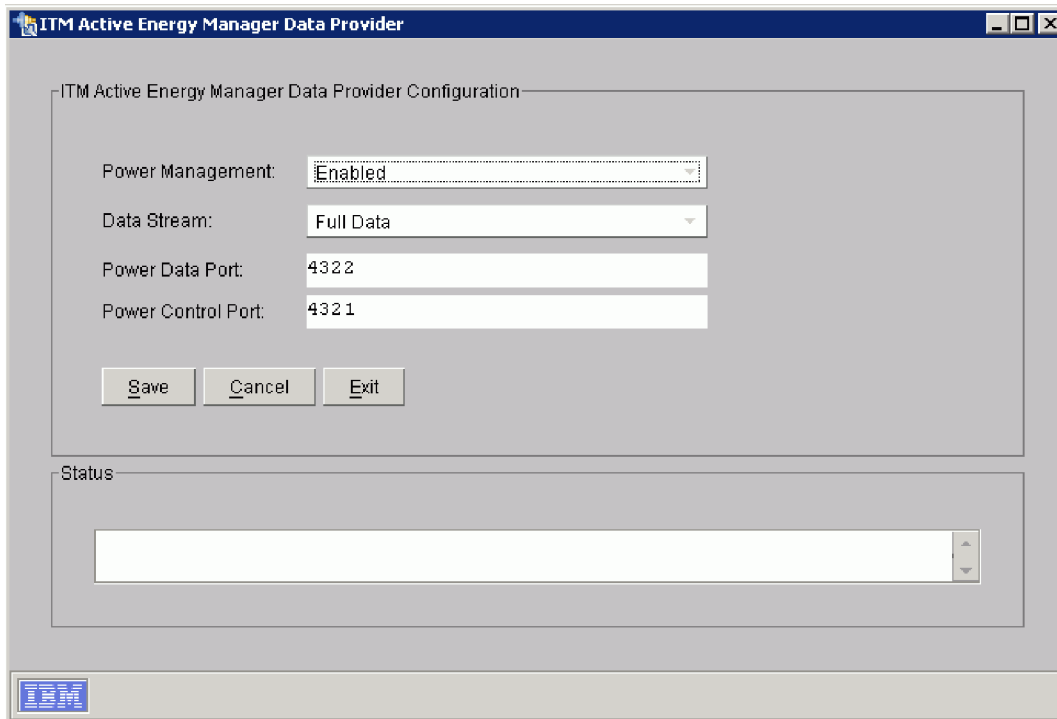

Figure 2. Configuration options for the Active Energy Manager Agent
**Open.** The dialog box as shown in Figure 2 is displayed.